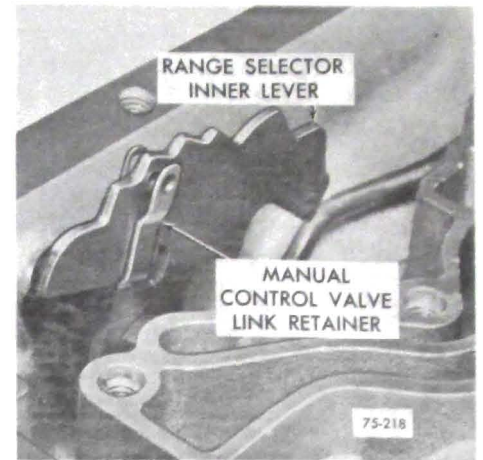

Figure 75-287
5. Install manual control valve link retainer. See Figure 75-287.